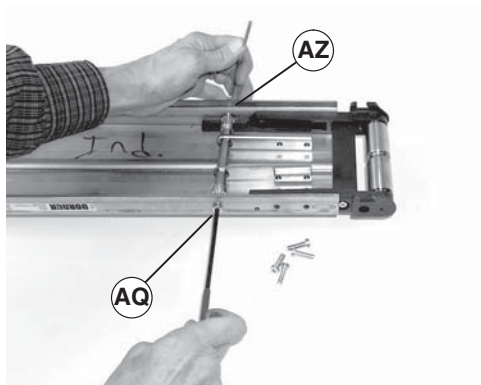

Figure 34
2. Loosen two screws (Figure 34, item AQ and AZ).